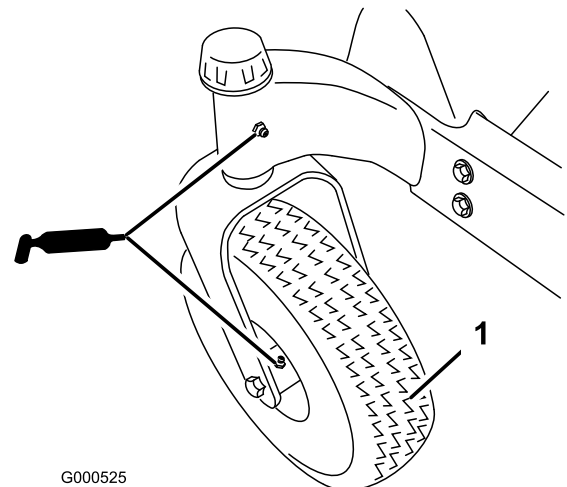
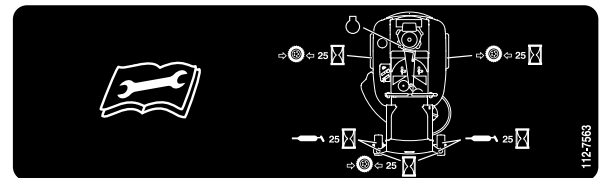

Figure 29
Figure 30
Grease the front caster pivots and wheels (Figure 29).
3. Clean the grease fittings (Figure 29 and Figure 30) with a rag. Make sure to scrape any paint off of the front of the fitting(s).
4. Connect a grease gun to each fitting (Figure 29 and Figure 30). Pump grease into the fittings until grease begins to ooze out of the bearings.